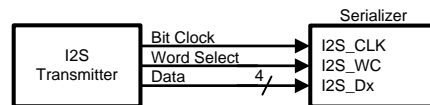
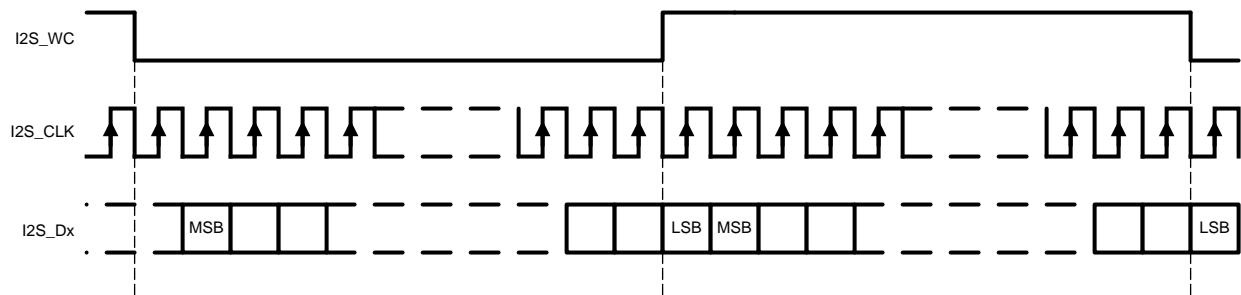

Figure 21. I²S Connection Diagram
Figure 22. I2S Frame Timing Diagram
The DS90UH947-Q1 serializer features six I²S input pins that, when paired with a compatible deserializer, supports 7.1 High-Definition (HD) Surround Sound audio applications. The bit clock (I2S_CLK) supports frequencies between 1MHz and the lesser of CLK/2 or 13 MHz. Four I²S data inputs transport two channels of I²S-formatted digital audio each, with each channel delineated by the word select (I2S_WC) input. Refer to Figure 21 and Figure 22 for I2S connection diagram and timing information.